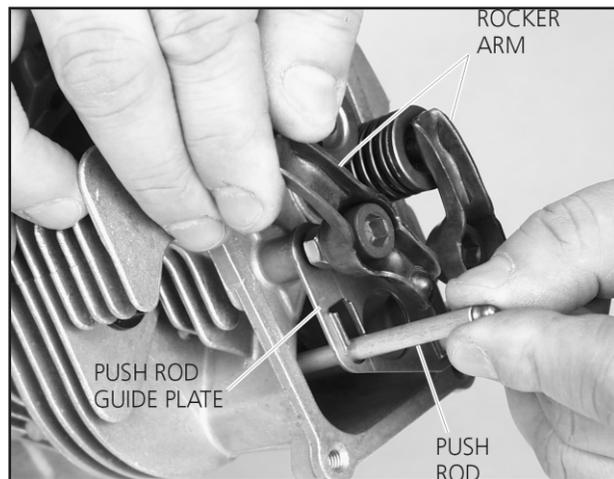

Figure 9.3 — Rocker Arms and Push Rod Guide Plate
3. Remove the PUSH RODS (see Figure 9.3).